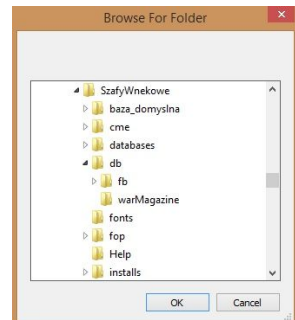

Fig. 31 - Selection of a new directory for saving wardrobe designs
-  **'Change default folder'** - allows to change the default location for saving wardrobe designs. When selected, in a new window **'Browse for folder'** (Fig. 31), you can select a new save location.